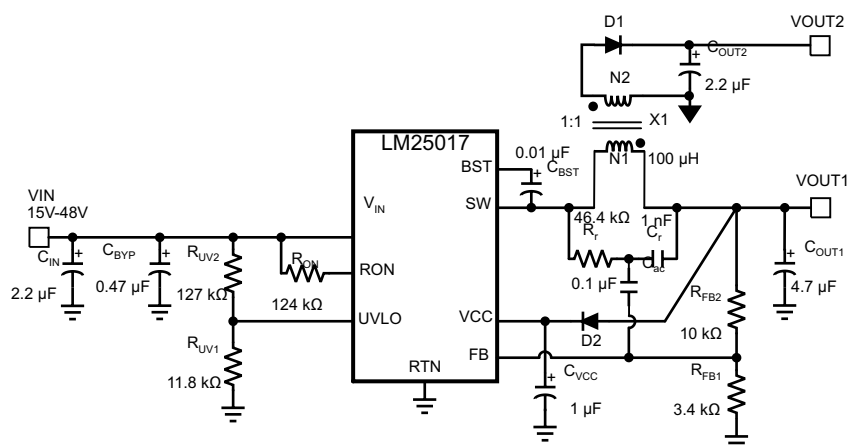

Figure 8-5. Typical Isolated Application Schematic
An isolated supply using LM25017 is shown in Figure 8-5. Inductor (L) in a typical buck circuit is replaced with a coupled inductor (X1). A diode (D1) is used to rectify the voltage on a secondary output. The nominal voltage at the secondary output (V_{OUT2}) is given by Equation 17.